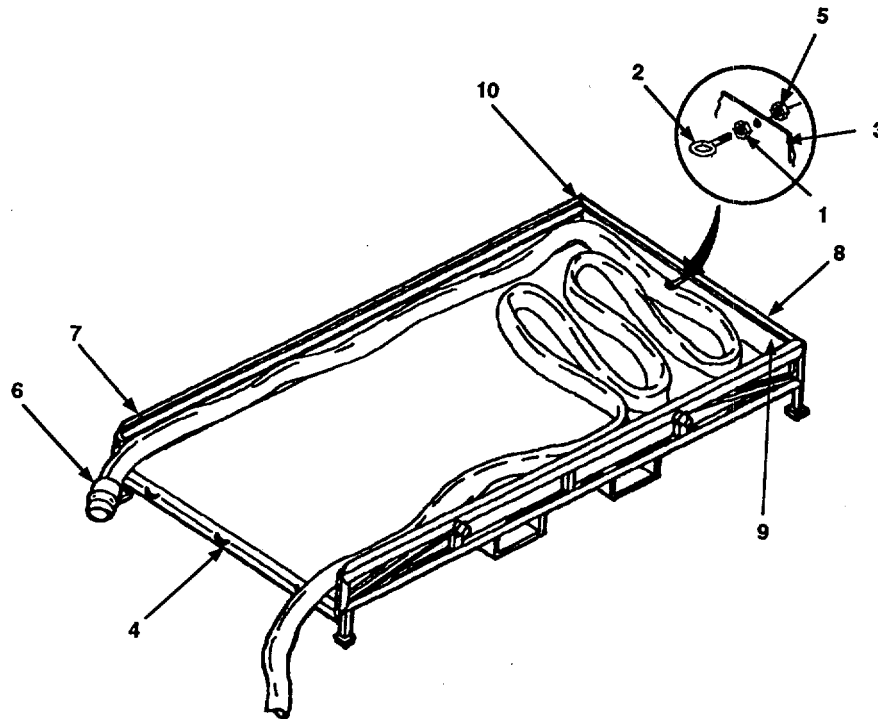

Figure 2-61. Start Hoseline Packing.
- n. Install nut (Figure 2-61, 1) on eyebolt (2). Turn nut (1) to its limit of travel.
- o. Place eyebolt (2) through hole in permanent end wall (3) of flaking box assembly (4). Place nut (5) on eyebolt (2). Tighten nut (5) until eyebolt (2) is securely fastened to flaking box assembly (4).
- av. Remove nut (Figure 2-61, 5), eyebolt (2) and nut (1) from rear of flaking box assembly (8).
- aw. Load and nest empty flaking box assembly on top of full flaking box assembly (8). Repeating steps n through aw, pack next length of hoseline. Continue this procedure until all remaining lengths of hoseline have been packed.